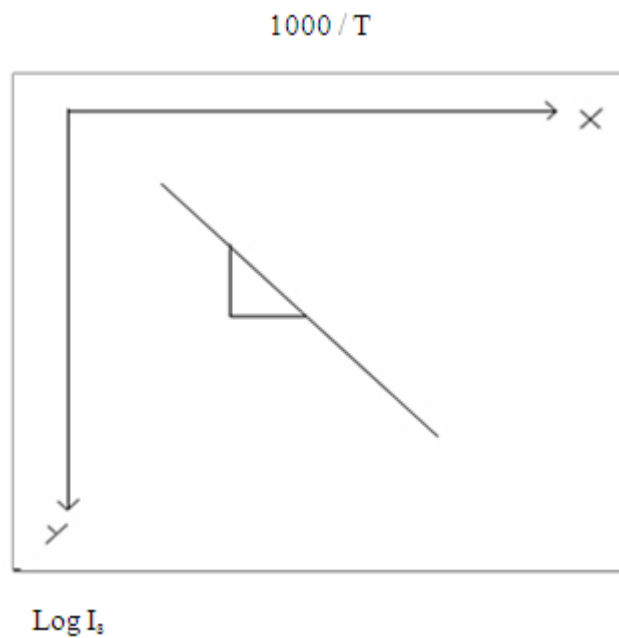

Fig1.2. Variation of current with inverse temperature in a reverse biased pn -diode
- A graph is plotted taking  $1000/T$  along x axis and  $\log I_s$  along negative y axis (fig.1.2), (Since  $I_s$  in the order of micro-ampere,  $\log I_s$  value will come in negative).